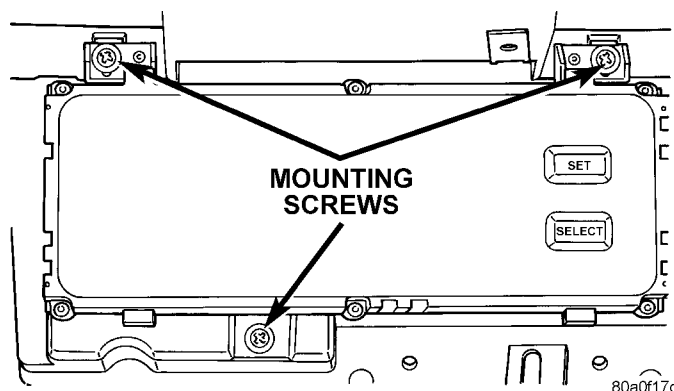

Fig. 12 Graphic Display Module and Vehicle Information Center Remove/Install
(1) Remove the glove box module from the instrument panel. See Glove Box Module in this group for the procedures.
(2) Remove the three screws that secure the Graphic Display Module (GDM) or Vehicle Information Center (VIC) to the instrument panel armature (Fig. 12).